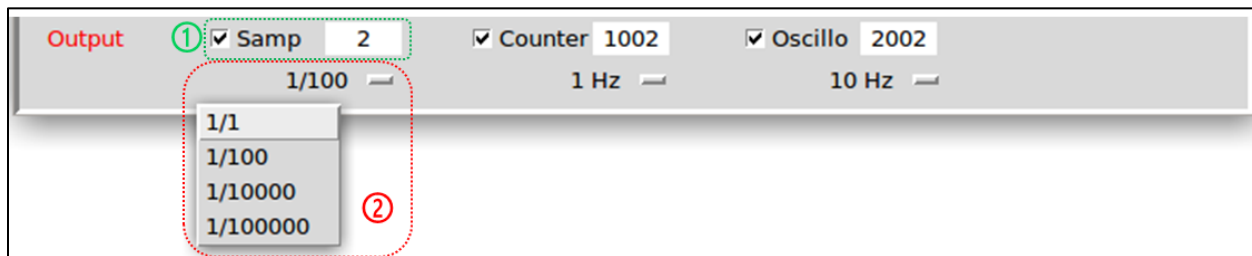

Figure 33: decimation of "Scaler" data
The experimenter can store or display all "SAMPLER" data processed by the SAMPLER module by enabling data output (cf. Figure 33 ①) and selecting 1/1 (cf. Figure 33 ②). But, when the event rate is too high and saturates the FASTER acquisition, the user can choose to store a percentage of this rate: one event data every 100 event data is sent, or every 10^4 event data, or one event data every 10^5 event data. With this decimation parameter, the acquisition efficiency can be controlled.
- **myChannel_CALC**: depends on the decimation parameter (cf. Figure 33). In case of “auto width” and null durations before and after pulse (cf. III.G.3.b)